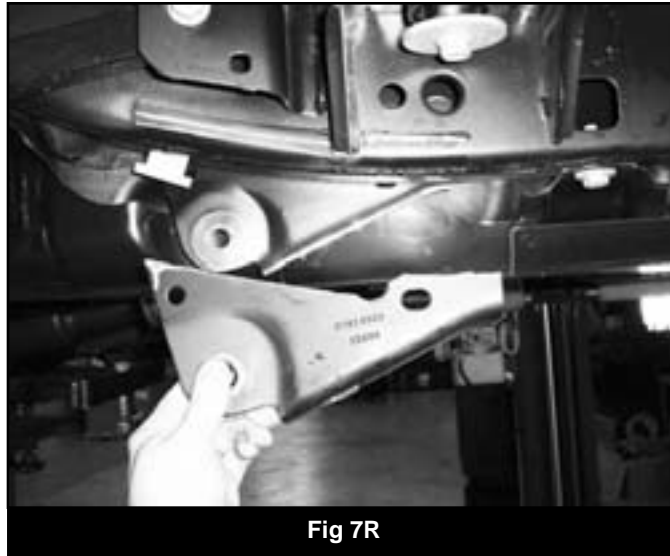

Fig 7R
18. After removing the bracket, go back and grind the weld located within the body mount smooth 1" from the end. This will allow the new mounting bracket to lay flush against the frame when installed. (Fig 7R)